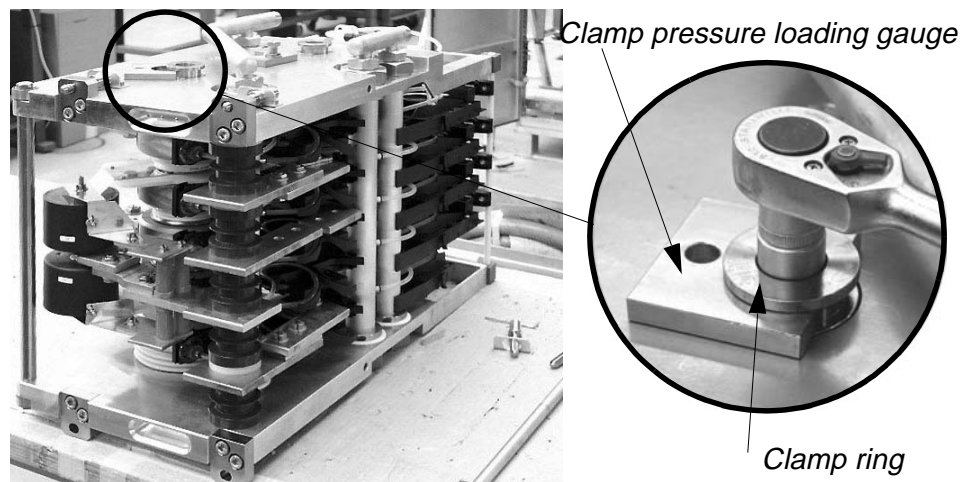

Figure 6-3 Releasing the Clamp Pressure
- 4 Slide the clamp pressure loading gauge under the clamp ring of the pressure adjusting bolt and loosen the bolt to release the clamp pressure of the stack (see Figure 6-3).